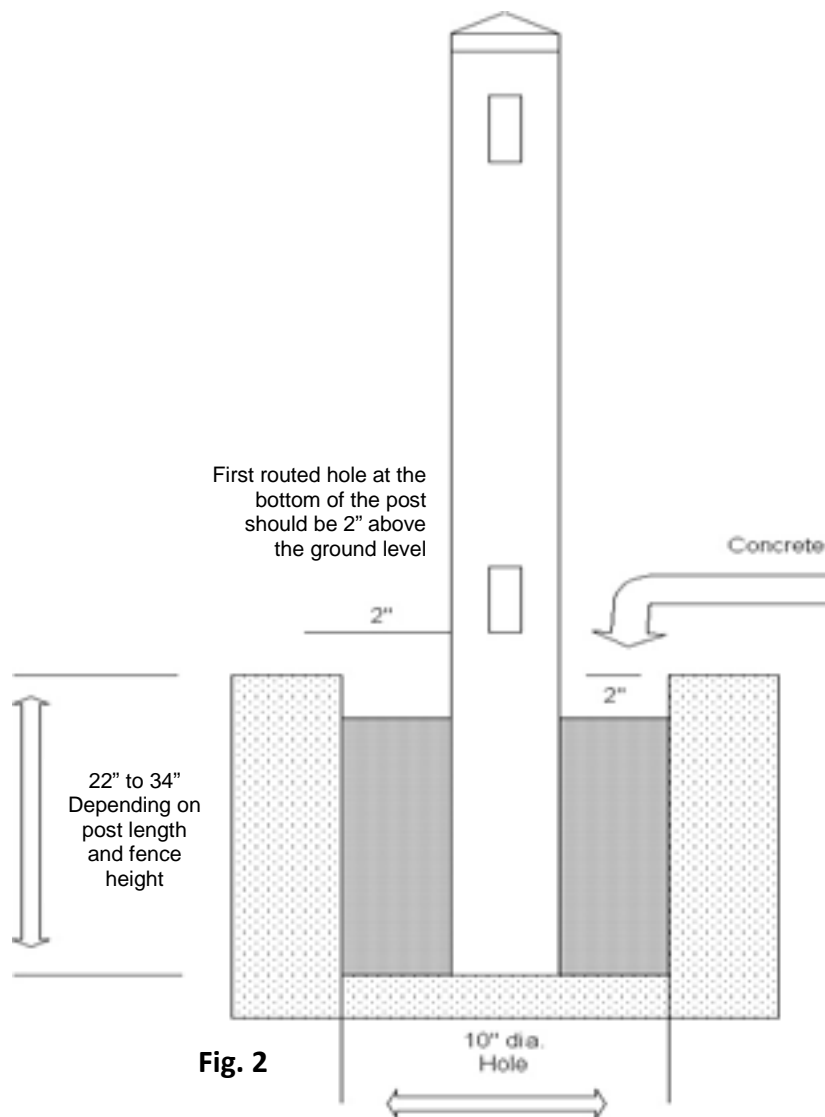

Fig. 2
**Step 2.** Position the post in the hole. The post should be centered in the hole and must be square with the fence line so that when the rails are inserted into the post, they will parallel the string line. Check the post on two adjacent sides with a carpenter's level and adjust as necessary to make sure it is a plumb. The fence height above grade is determined at this time as well. We recommend a 2" space from the bottom of the bottom rail to the ground (Fig. 2).